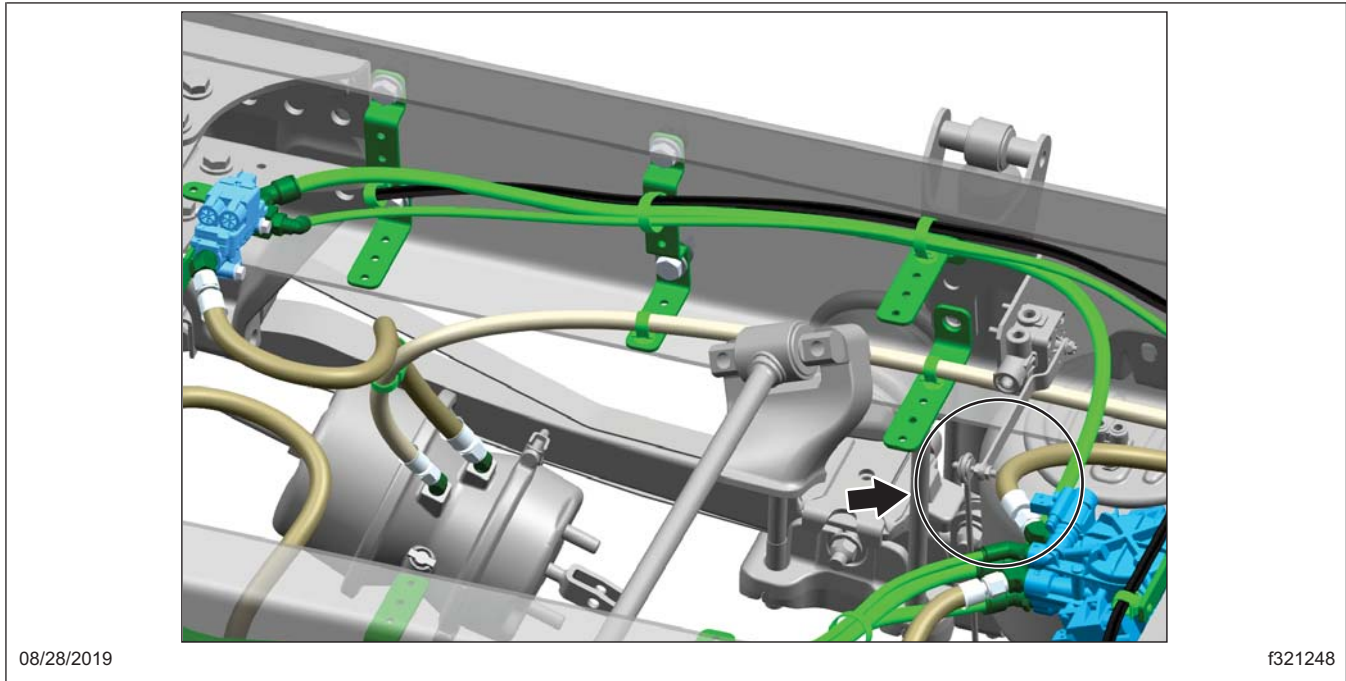

**Fig. 4, Shock Absorber Installation**
17. Install the shock absorber. At the lower mounting, make sure the longer section of the sleeve is facing inboard. See **Fig. 4**.